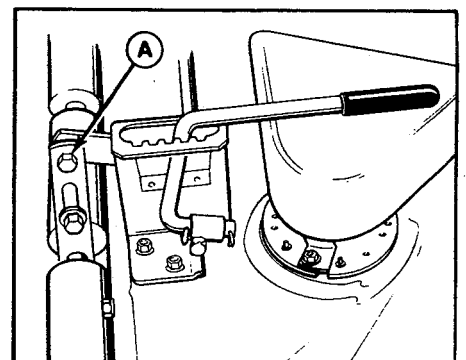

Figure 33. Shoulder Bolt
5. Loosen the shoulder bolt (A, figure 33) and raise or lower mower as necessary to level it. Retighten the shoulder bolt and torque to 40 ft. lbs.